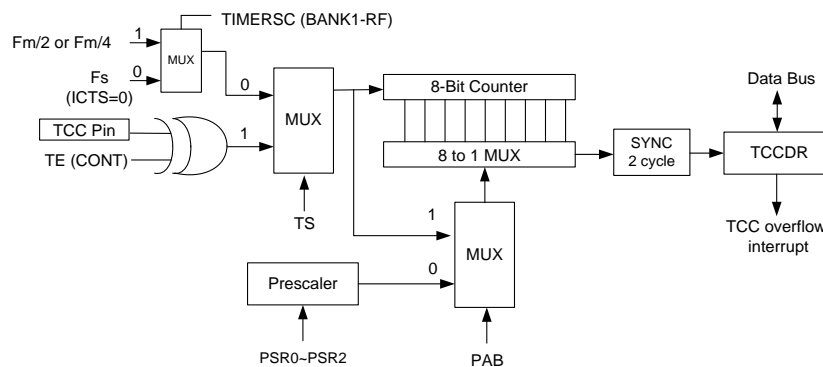

Figure 6-4 TCC Block Diagram
There is an 8-bit counter available as prescaler for the TCC or WDT. The prescaler is available for the TCC only or the WDT only and the PAB bit of the CONT register is used to determine the prescaler assignment. The PSR0~PSR2 bits determine the ratio. The prescaler is cleared each time the instruction is written to TCC under TCC mode. The WDT and prescaler, when assigned to WDT mode, are cleared by the “WDTC” or “SLEP” instructions. Figure 6-4 depicts the circuit diagram of TCC. Figure 6-5 depicts the circuit diagram of WDT.
- R1 (TCC) is an 8-bit timer/counter. The TCC clock source can be internal or external clock input (edge selectable from TCC pin). If the TCC signal source is from an internal clock, TCC will be incremented by 1 every instruction cycle (without prescaler). Referring to Figure 6-4, $CLKS = F_M / 2$ or $CLKS = F_M / 4$, depends on the Code Option bit CLKS. $CLKS = F_M / 2$ is used if CLKS bit is "0", and $CLKS = F_M / 4$ is used if CLKS bit is "1". If the TCC signal source is from an external clock input, TCC is incremented by 1 at every falling edge or rising edge of the TCC pin.